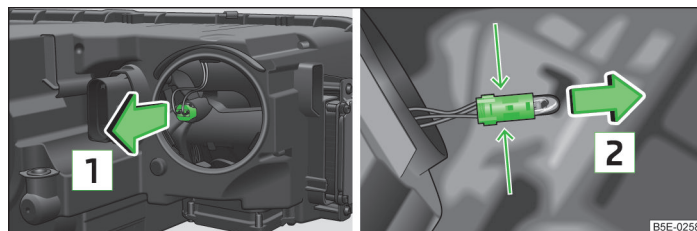

Fig. 225 Headlights with Xenon headlights and LED daytime running lights:
- Remove the bulb holder with the bulb by jiggling it out in the direction of the arrow **1** » Fig. 225.